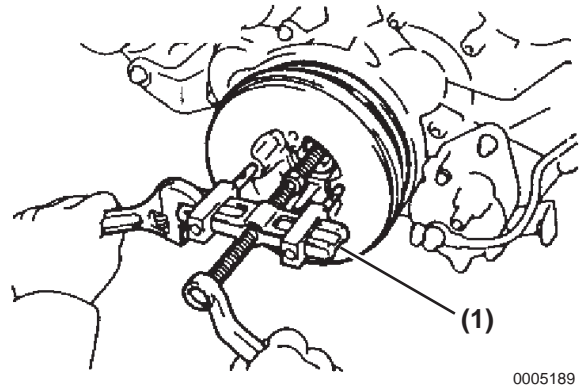

Figure 5-189
8. Remove the crankshaft pulley using special tool P/N 119770-01070 (**Figure 5-189, (1)**).